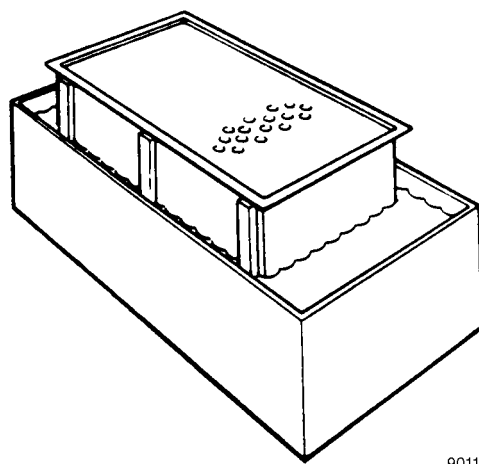

FIGURE 5-6. WASHING AND SOAKING THE PRECLEANER SECTION
2. Loosen clamps (8) and remove dust cups (10) and O-rings (9) from the precleaner section. Wash the dust cups with a water and liquid soap solution.
3. Submerge the precleaner section in a solution of Donaldson D-1400 and warm water (see Figure 5-6). Mix the solution according to the directions on the package. The tube section must be down. Soak for 30 minutes, then remove the precleaner section from the solution. Rinse thoroughly with fresh water and blow dry.